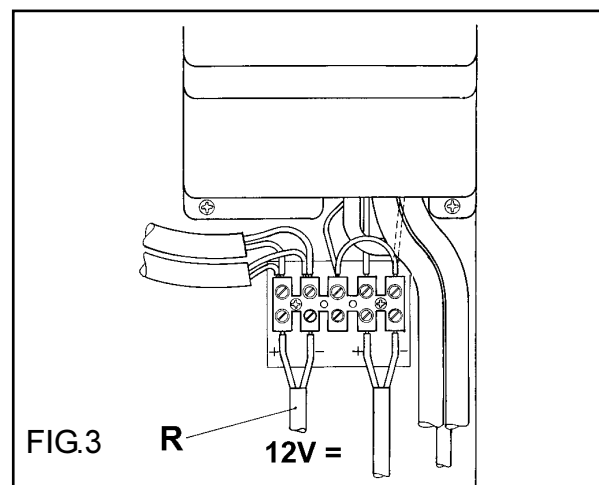

FIG.3
It is advisable to feed the reigniter and the lighting from a separate 12 V source. To do this: remove the wires (1) and (2) and connect the supply as is shown in FIG.3.